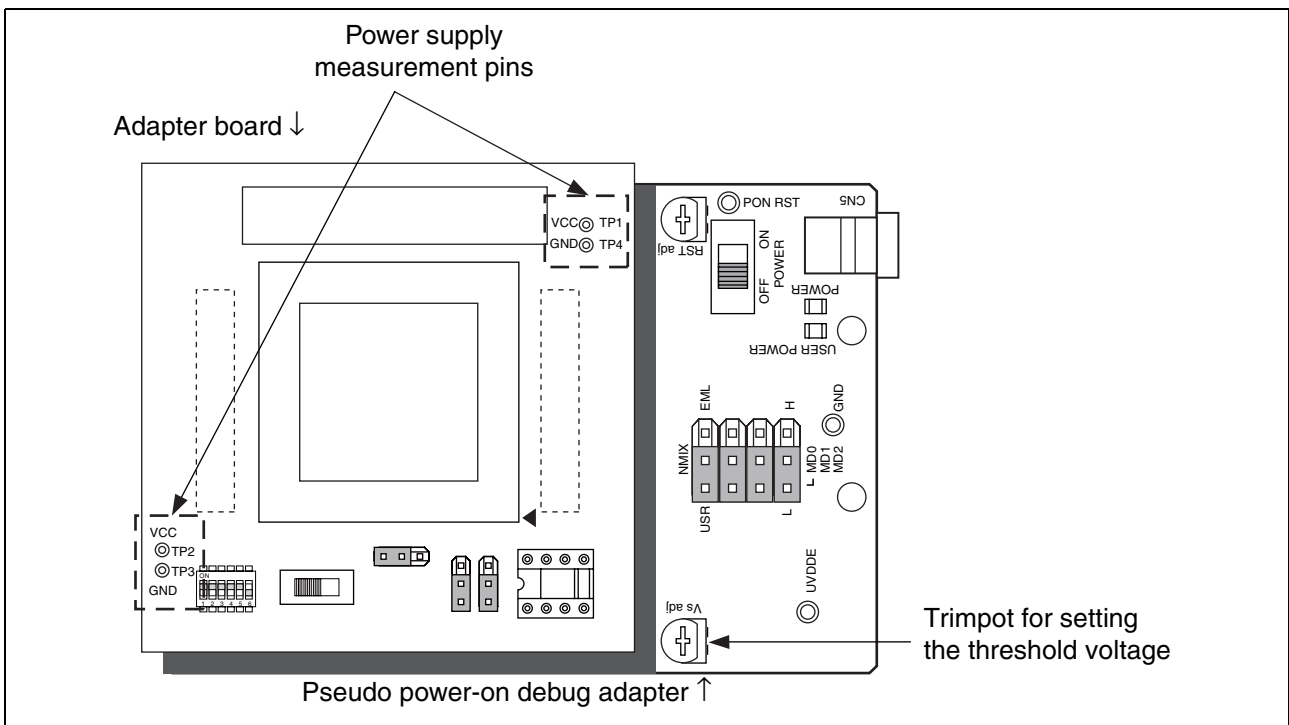

Figure 7 Positions of the measurement and control components
3. Connect a voltage meter between the VCC and GND pins on the adapter board such that V_s can be measured from the VCC pin. Refer to Figure 7 for the positions of the VCC and GND check pins.
2. Rotate the trimpot for setting the threshold voltage to adjust V_s to the desired voltage. Turn the knob on the trimpot to the right to reduce the value of V_s and to the left to increase the value. Refer to Figure 7 for the position of the trimpot for setting the threshold voltage.